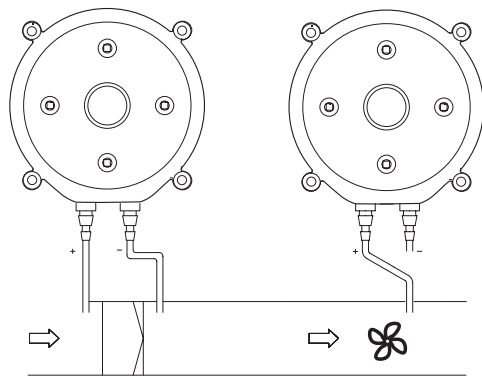

Fig. 3
- 2 PVC connectors (see Fig.3);